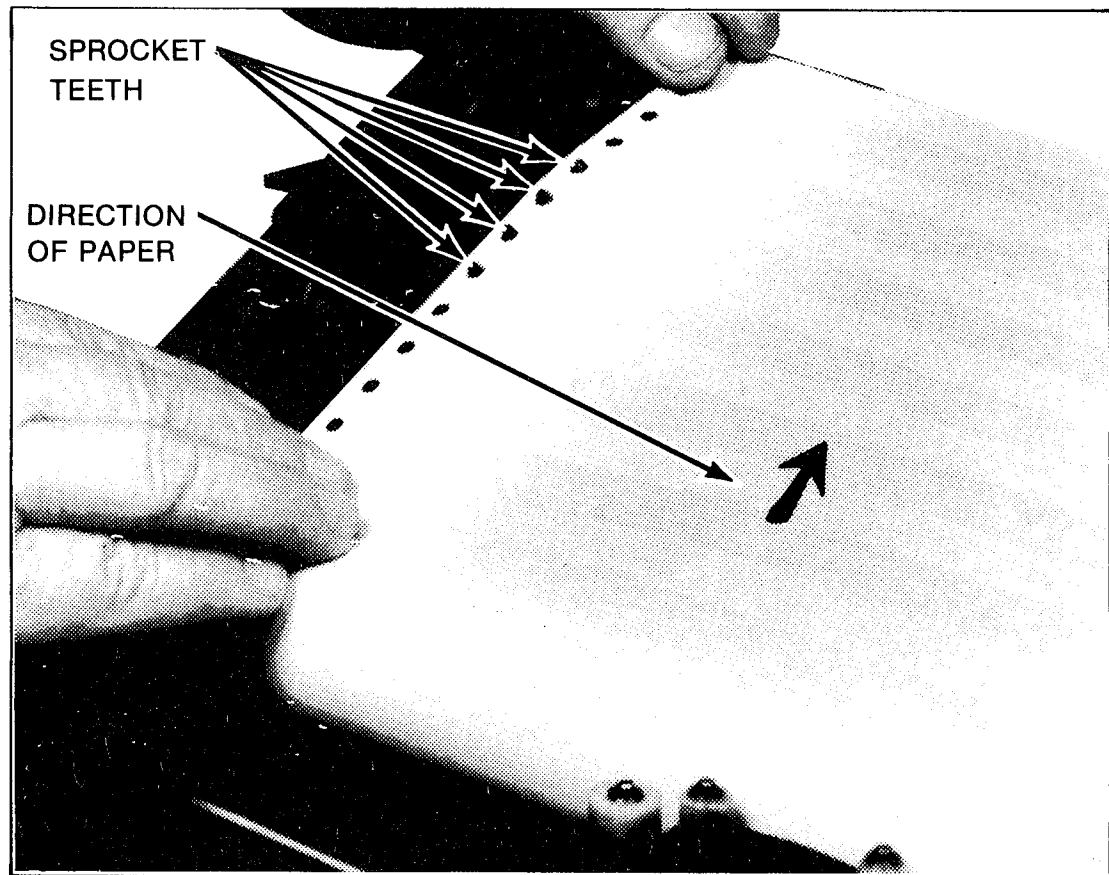

Figure 8. Aligning Paper (Upper Sprocket Teeth)
- Align holes in paper over left and right upper sprocket teeth and close tractor covers. (Figure 8).